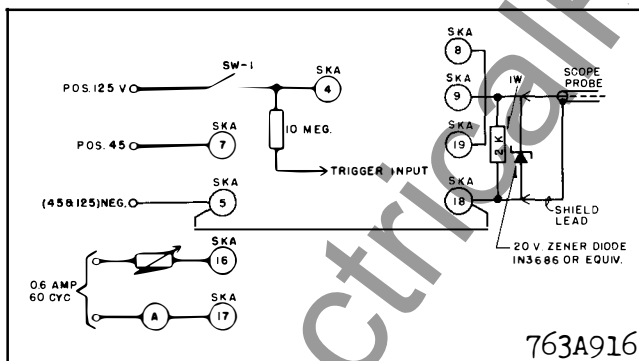

Fig. 11. Test Connections for the Carrier Squelch Unit of the Type SKA Relay.
1. Make the connections shown in Fig. 11.